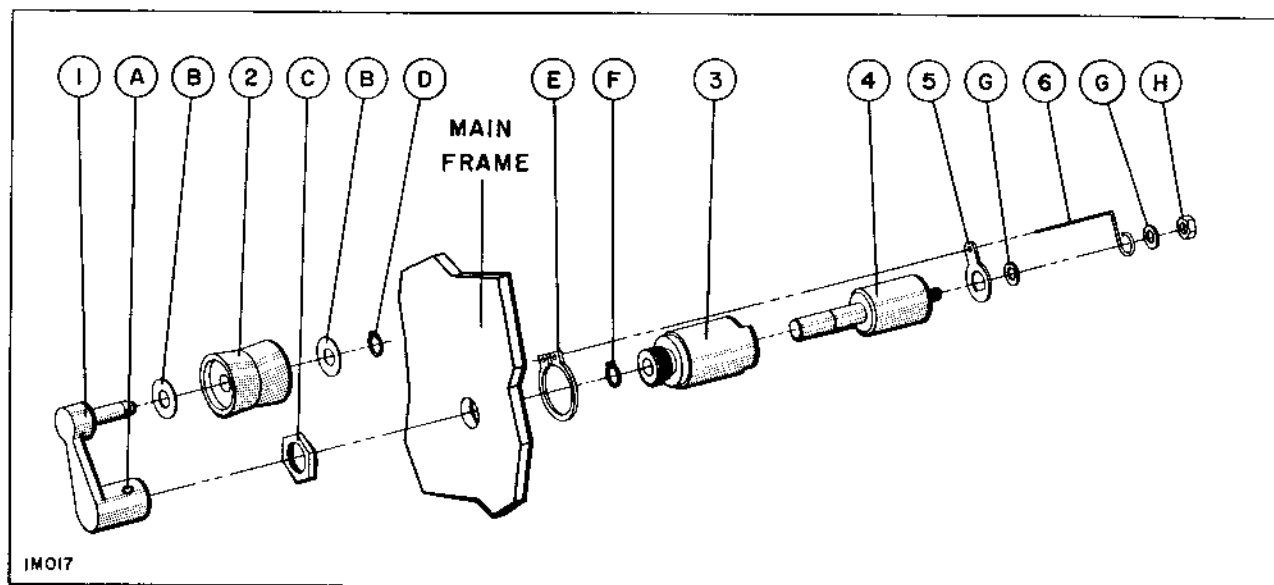

Figure 18
- To remove tension arm (1) loosen setscrew (A) and slide arm from shaft (figure 18).
- To remove roller, remove retaining ring (D). When installing roller onto shaft, place washers (B) on each end and place deeper cavity end of roller on shaft first.
- Remove nut (C) on front of frame and remove assembly from rear of projector.
- To disassemble damper, remove retaining ring (F) and slide rotor (4) out of sleeve (3).
- Remove nut (H) to remove spring (6).
- When reassembling damper, make certain that flat on shaft of rotor (4) and one of cutouts on sleeve (3) are aligned.
- Install spring locking washer (5) and tension spring
- Install nut (H) and tighten.